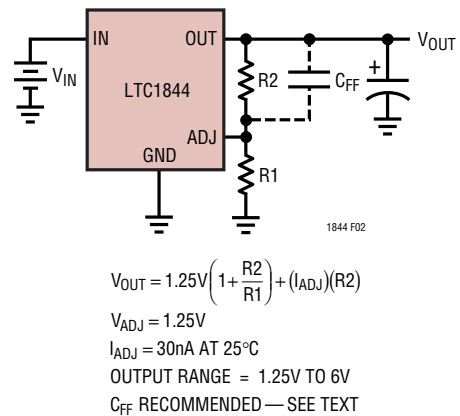

Figure 2. Adjustable Operation
**ADJ (Pin 4, Adjustable Devices):** Output Adjust. For the adjustable versions of the LTC1844, this is the input to the error amplifier. It has a typical bias current of  $30\text{nA}$  flowing into the pin. The ADJ pin reference voltage is  $1.25\text{V}$  referenced to ground. The output voltage range is  $1.25\text{V}$  to  $6\text{V}$  and is typically set by connecting ADJ to a resistor divider from OUT to GND. See Figure 2.
The adjustable version of the LTC1844 has an output voltage range of 1.25V to 6V. The output voltage is set by the ratio of two external resistors as shown in Figure 2. The device serves the output to maintain the ADJ pin voltage at 1.25V (referenced to ground). The current in R1 is then equal to  $1.25\text{V}/R1$  and the current in R2 is the current in R1 plus the ADJ pin bias current. The ADJ pin bias current, 30nA at 25°C, flows through R2 into the ADJ pin. The output voltage can be calculated using the formula in Figure 2. The value of R1 should be no greater than  $1\text{M}\Omega$  to minimize errors in the output voltage caused by the ADJ pin bias current. Note that in shutdown the output is turned off and the divider current will be zero once  $C_{\text{OUT}}$  is discharged.
Because the ADJ pin is relatively high impedance (depending on the resistor divider used), stray capacitance at this pin can introduce significant phase shift in the error amplifier loop. The PCB layout should be designed to absolutely minimize the capacitance seen at the ADJ pin. To ensure stability over all operating conditions when utilizing large divider resistors, a small feedforward capacitor ( $\approx 1000\text{pF}$ ) in parallel with the upper divider resistor ( $C_{\text{FF}}$  in Figure 2) is recommended. As an added bonus, this capacitor will improve transient response.